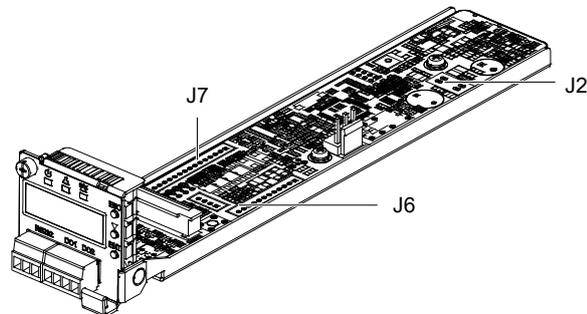

Figure 4-3 Replacing controller (2)
3. Pull out the monitoring unit slowly until the J2 terminal is completely exposed, and pull out the connected terminals from J2, J6 and J7 carefully (as shown in Figure 4-3), and do insulation respectively.